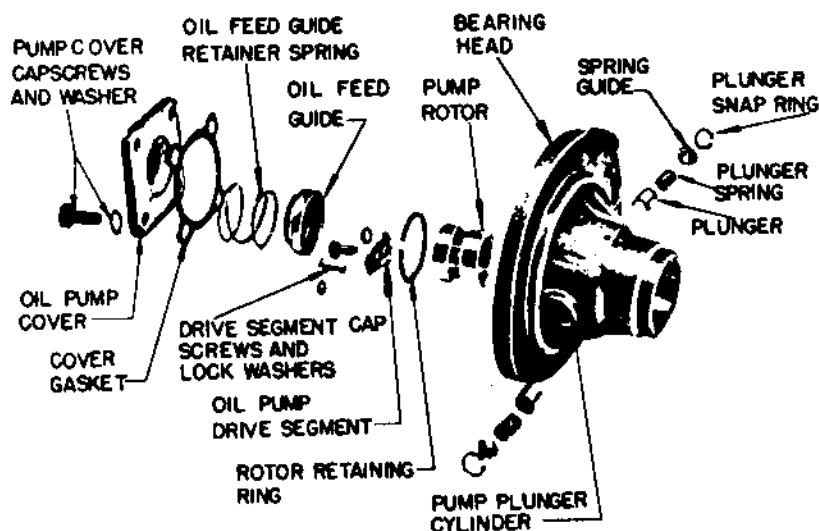

Figure 3-5. Oil Pump and Bearing Head Assembly
a. Remove the plunger snap rings with snap ring pliers. As each snap ring is removed, the spring guide, plunger spring, and plunger may be removed from the cylinder in the bearing head. See figure 3-5.
f. Place the pump cover, with a new gasket, over the guide retainer spring and compress the spring to enable installation of the cover capscrews. See figure 3-5, page 3-7. Tighten the cover capscrews to torque values given in table 3-1, page 3-2.